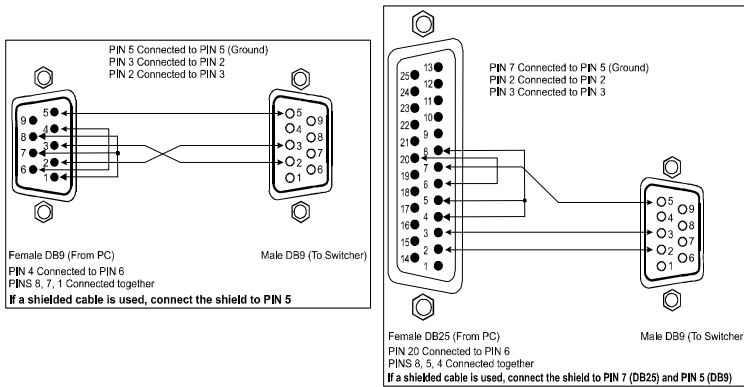

Figure 2: Connecting a PC without using a Null-modem Adapter
- Connect the RS-232 DB9 port on your PC to the RS-232 DB9 rear panel port on the **SP-11D** unit, as Figure 2 illustrates (depending on whether the PC has a 9-pin or 25-pin connector)